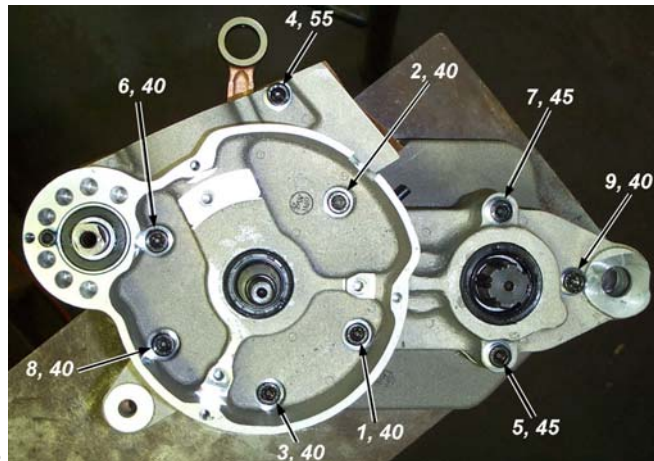

Figure 28
9. Torque to 12 Nm (105 in-lb) in the pattern shown in figure 28.